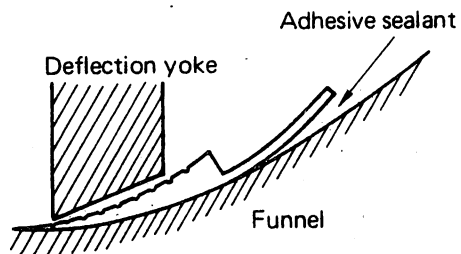

Figure 5-21
c. After inserting the wedge, raise the end of each wedge and drip the silicone adhesive sealer between the wedge and the funnel as shown in Figure 5-21.